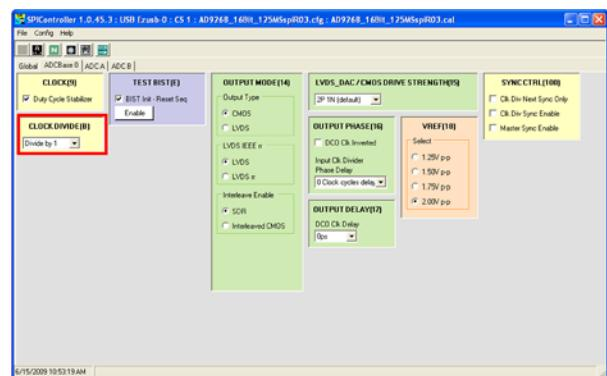
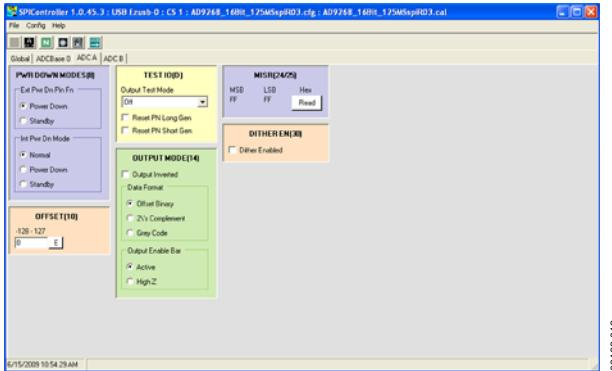

Figure 11. SPI Controller, CLOCK DIVIDE(B) Box
Figure 12. SPI Controller, Example ADC A Page
3. In the **ADCBase 0** tab of the **SPIController** window, find the **CLOCK DIVIDE(B)** box (see Figure 11). If using the clock divider, use the drop-down box to select the correct clock divide ratio, if necessary. See the appropriate part data sheet; the AN-878 Application Note, *High Speed ADC SPI Control Software*; and the AN-877 Application Note, *Interfacing to High Speed ADCs via SPI*, for additional information.
4. Note that other settings can be changed on the ADCBase 0 page (see Figure 11) and the **ADC A** and **ADC B** pages (see Figure 12) to set up the part in the desired mode. The **ADCBase 0** page settings affect the entire part, whereas the settings on the **ADC A** and **ADC B** pages affect the selected channel only. See the appropriate part data sheet; the AN-878 Application Note, *High Speed ADC SPI Control Software*; and the AN-877 Application Note, *Interfacing to High Speed ADCs via SPI*, for additional information on the available settings.